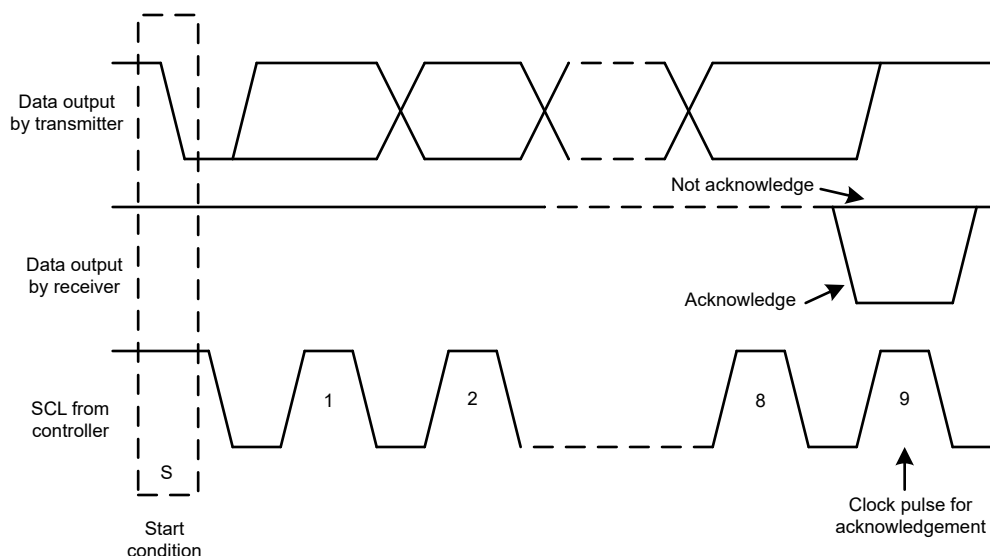
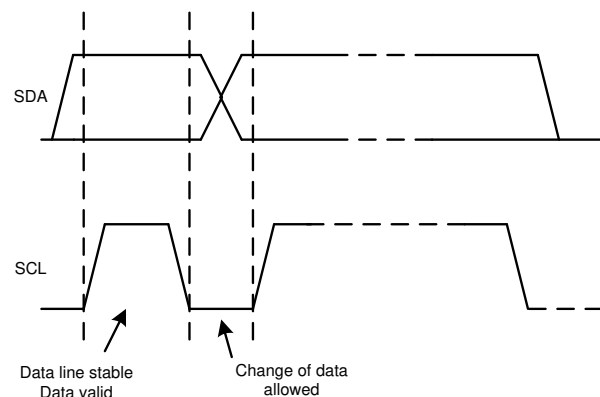

Figure 7-18. Acknowledge and Not Acknowledge on the I²C Bus
Figure 7-20. Bit Transfer on the I²C Bus
Other than specific timing signals, the I²C interface works with serial bytes. At the end of each byte, a ninth clock cycle generates and detects an acknowledge signal. An acknowledge is when the SDA line is pulled low during the high period of the ninth clock cycle. Figure 7-18 depicts a not-acknowledge, when the SDA line is left high during the high period of the ninth clock cycle.
2. The controller then generates the SCL pulses, and transmits the 7-bit address and the read/write direction bit (R/\bar{W}) on the SDA line. During all transmissions, the controller makes sure that data are valid. Figure 7-20 shows that a valid data condition requires the SDA line to be stable during the entire high period of the clock pulse. All devices recognize the address sent by the controller and compare the address to the respective internal fixed address. Only the target device with a matching address generates an acknowledge by pulling the SDA line low during the entire high period of the 9th SCL cycle (see also Figure 7-18). When the controller detects this acknowledge, the communication link with a target has been established.